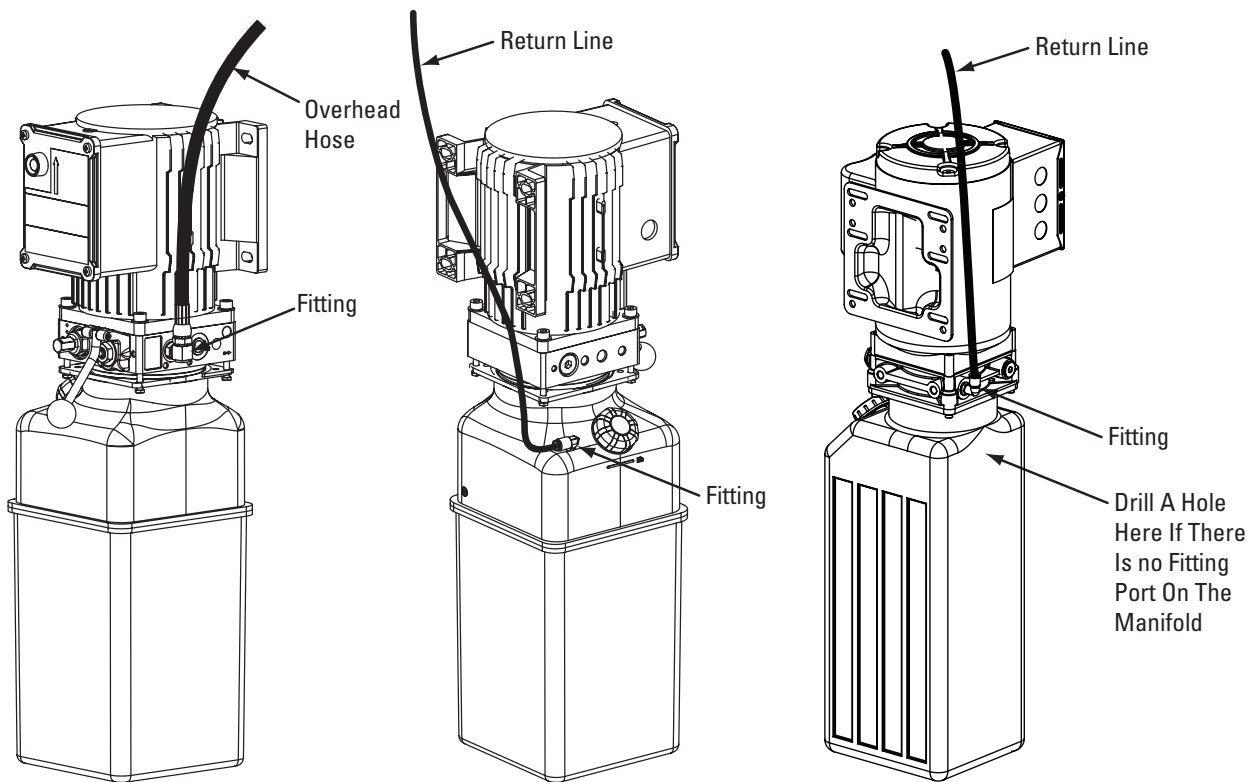

Fig. 14
Install the fitting onto the power unit pump manifold shown in Figure 14. The return line then connects to the power unit through a fitting.
NOTE: If no attachment point is present on the power unit manifold, the return line may be connected to the power unit tank. Drill a hole into the tank as shown in Figure 14. Insert the fitting into the hole and connect the return line to the fitting." **IMPORTANT** If fitting is installed onto the tank make sure any shavings are removed from the tank and thoroughly cleaned before adding hydraulic fluid.
13. Hoses: Clean adapters and hose. Inspect all threads for damage and hose ends to be sure they are crimped, Fig. 14. Install hose and hose clamps, Fig. 15a, Fig. 15b, Fig. 15c, & Fig. 19a.